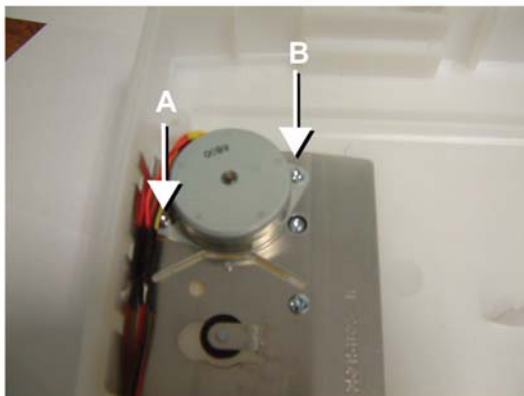

Figure 1
1. Unscrew the two mounting screws of the scanner motor (**A** and **B**), Figure 1.